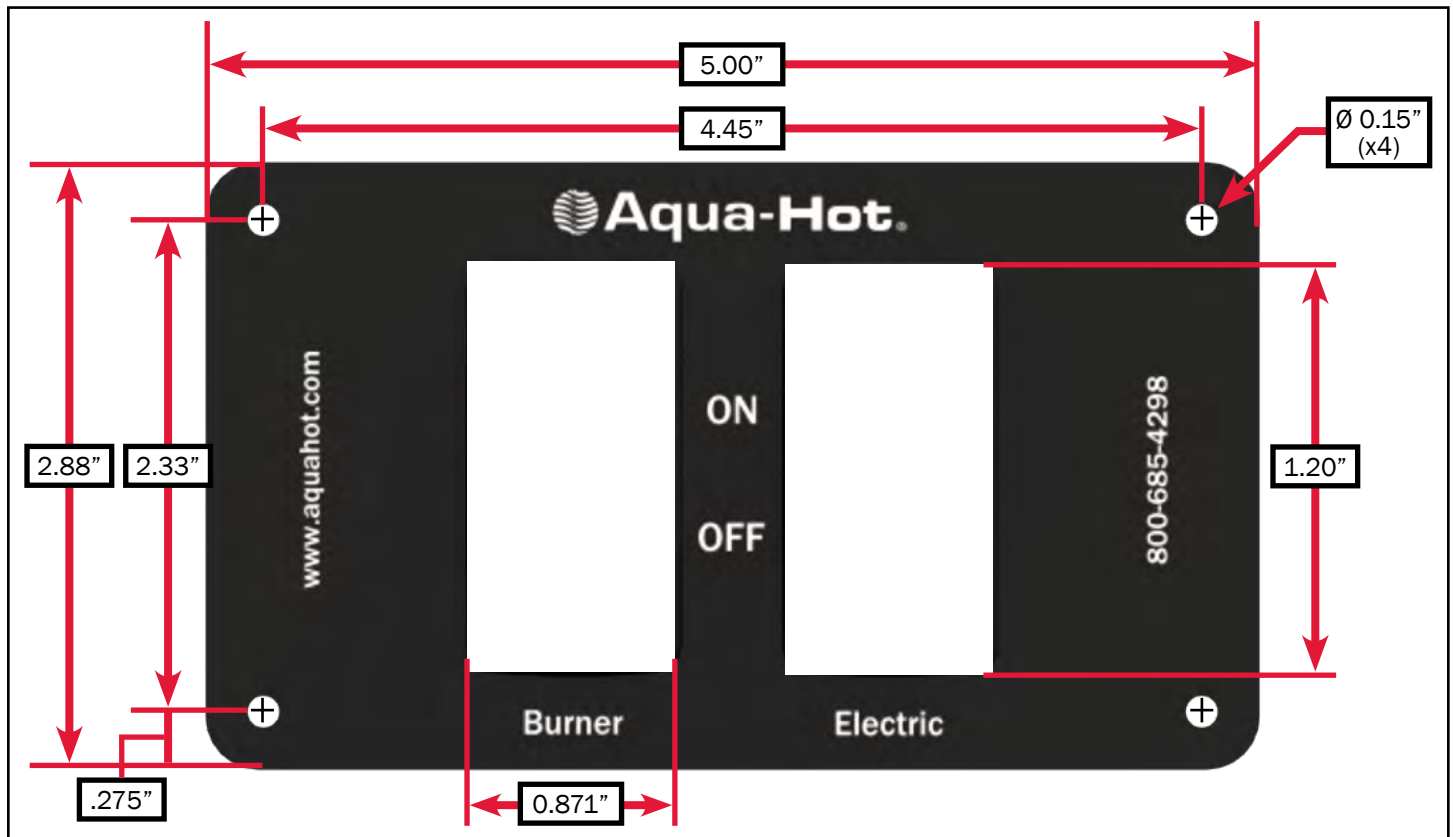

Figure 28
1. Cut out a 3.75" W x 1.25" H opening for the switch panel plate. Reference Figure 28.